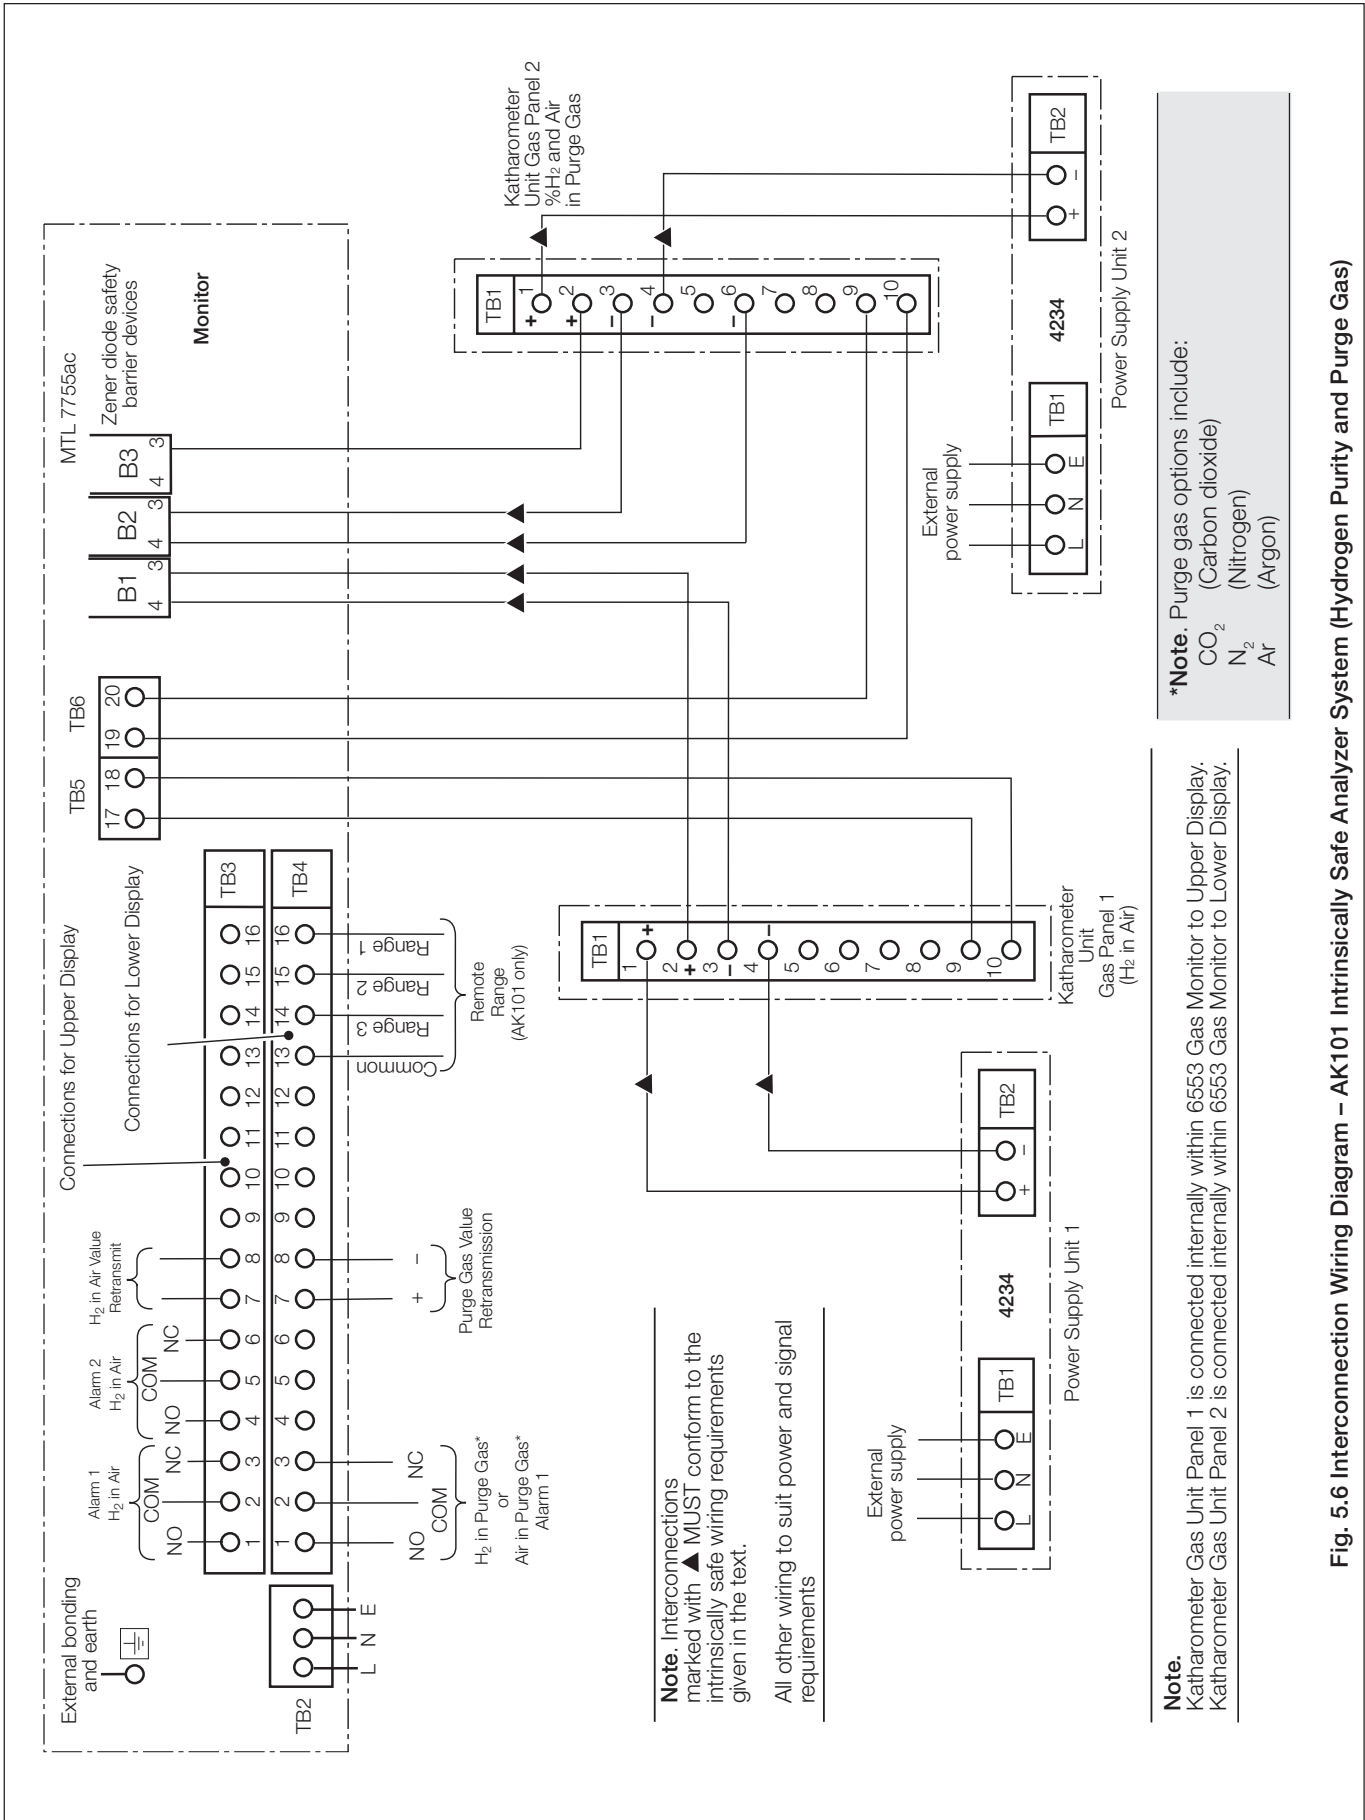
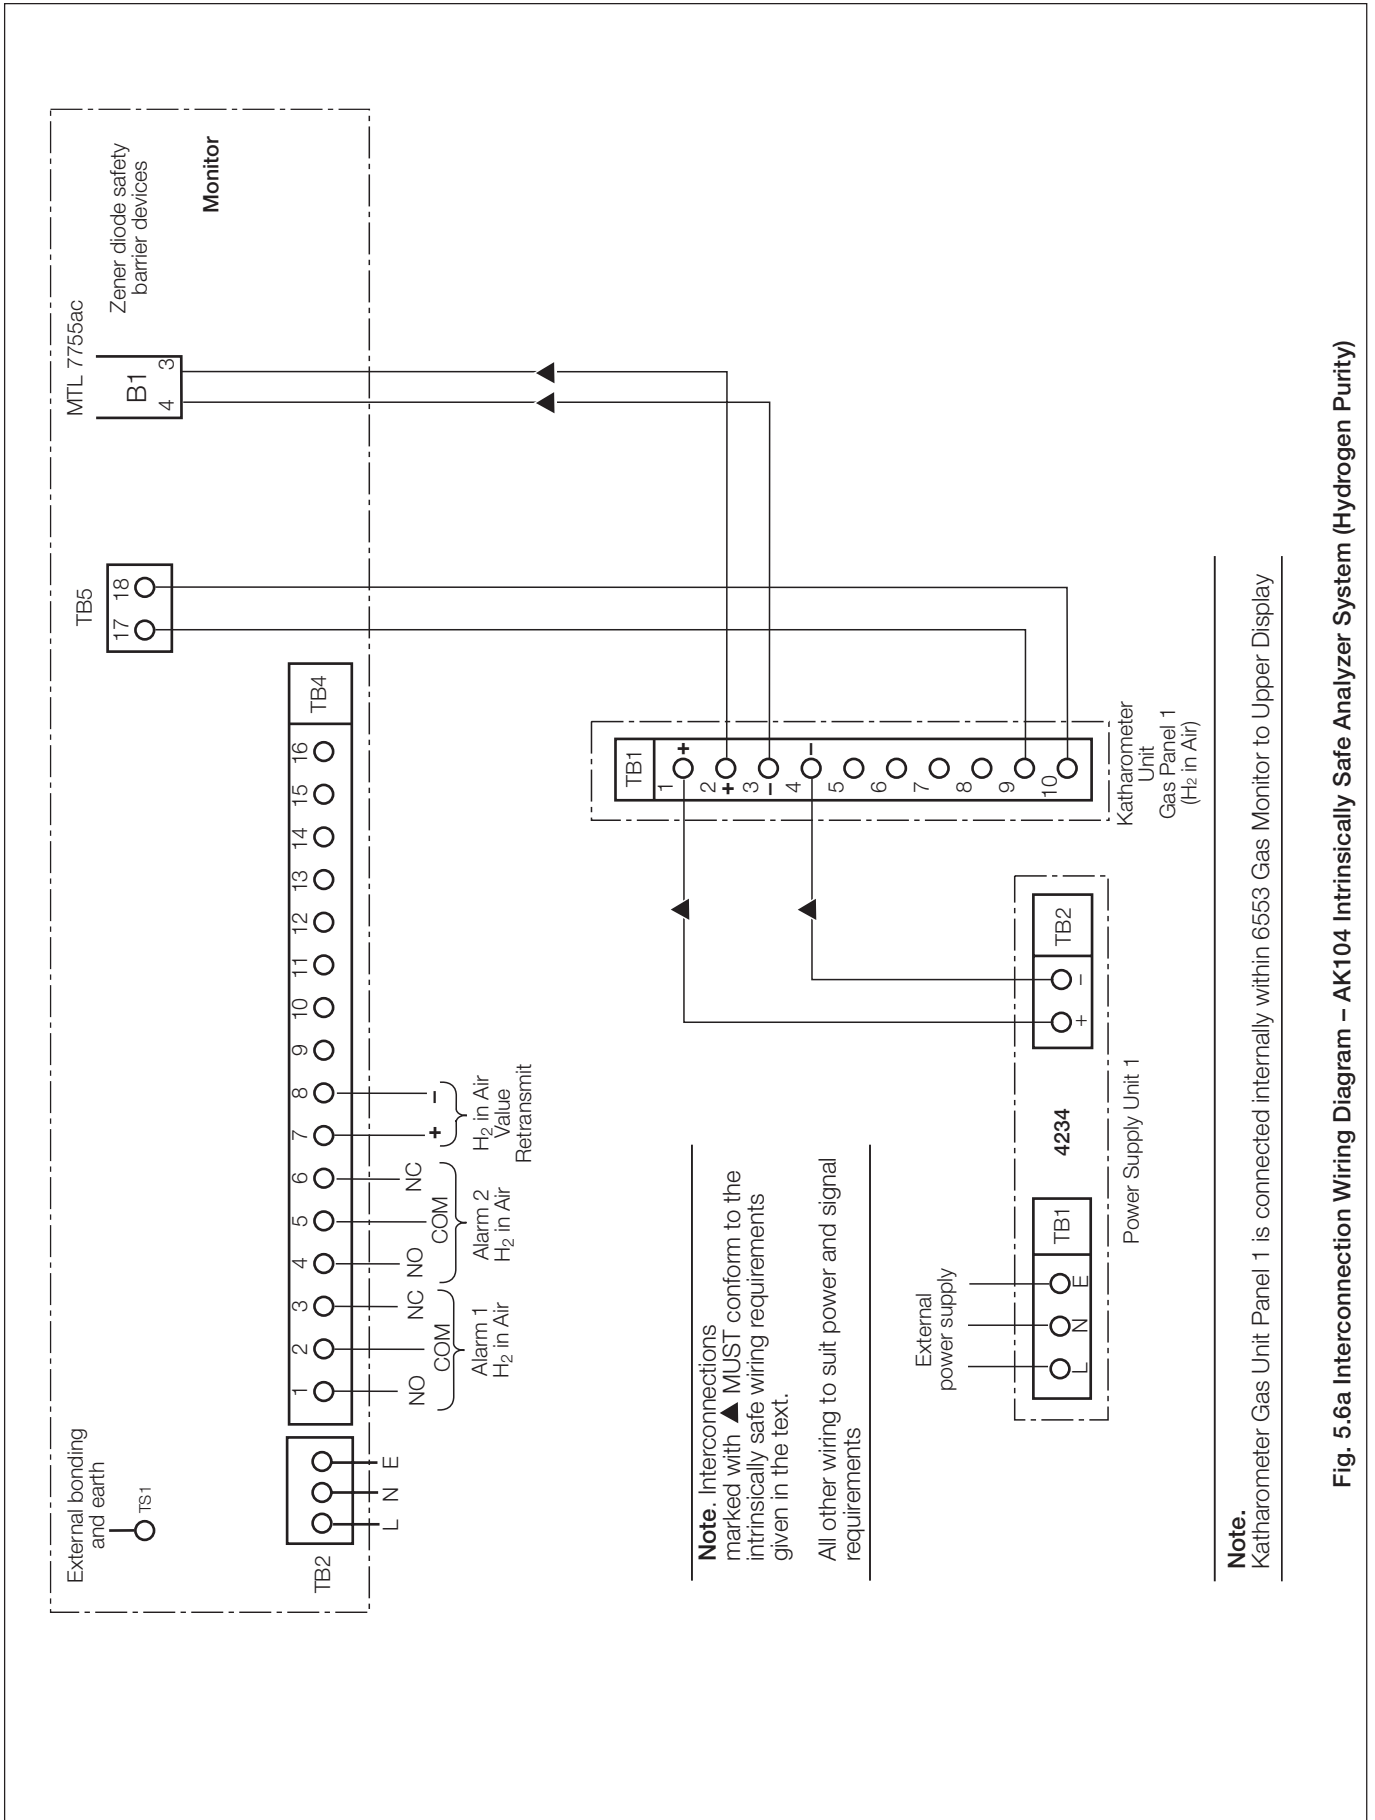

Fig. 5.6 Interconnection Wiring Diagram – AK101 Intrinsic Safe Analyzer System (Hydrogen Purity and Purge Gas)
Fig. 5.6a Interconnection Wiring Diagram – AK104 Intrinsically Safe Analyzer System (Hydrogen Purity)
- Do not make connections to the hazardous area terminals (Terminal Blocks TB5 & TB6) other than those specified in wiring diagram Fig. 5.6. The appropriate cable requirements must be strictly adhered to.
The alarm and signal outputs on terminal blocks TB3 & TB4 may be connected as required. The availability of signal outputs vary with the particular 6553 system – refer to Fig. 5.6 for details.
Make the wiring connections in accordance with the information given in the wiring diagram Fig. 5.6 and Section 5.1.
Make the electrical connections to the Display Unit in accordance with the information given in wiring diagrams in Figs 5.6, 5.7 and 5.8 and Section 5.2.
All cables from the Katharometer in the hazardous area must have an inductance/resistance ratio not exceeding $22\mu\text{H}/\Omega$ (for Group IIC gases). Refer also to Fig. 5.1 and Fig. 5.2. Note 2a. Also the maximum loop resistance of this interconnecting cable is limited to 1.5Ω ; this may place a limitation on the length of the total cable run. These wires are indicated by a ▲ in Fig. 5.6 and Fig 5.6a.
Katharometer to display unit cables, carrying the output signals through zener barrier unit B1 inside the display unit, are subject to of a maximum inductance/resistance ratio of $79\mu\text{H}/\Omega$ (for group IIC gases). Refer also to Fig. 5.1 Note 2d or Fig. 5.2 Note 2c. These wires are indicated by a ▲ in Fig. 5.6 and Fig 5.6a.
Katharometer 9 and 10 to 6553 Display Unit terminals TB5 and TB6 cables are subject to a maximum inductance/resistance ratio $75\mu\text{H}/\Omega$. Refer also to Fig. 5.1 Note 2b and Fig 5.2 Note 2b. These wires are indicated by a ▲ in Fig. 5.6 and Fig 5.6a.
Katharometer 2,3 & 6 to 6553 Display Unit terminals 3 & 4 on zener barriers B2 & B3 inside the display unit are subject to a maximum inductance/resistance ratio of $52\mu\text{H}/\Omega$ (for group IIC gases). Refer also to Fig 5.1 Note 2c. These wires are indicated by a ▲ in Fig 5.6.